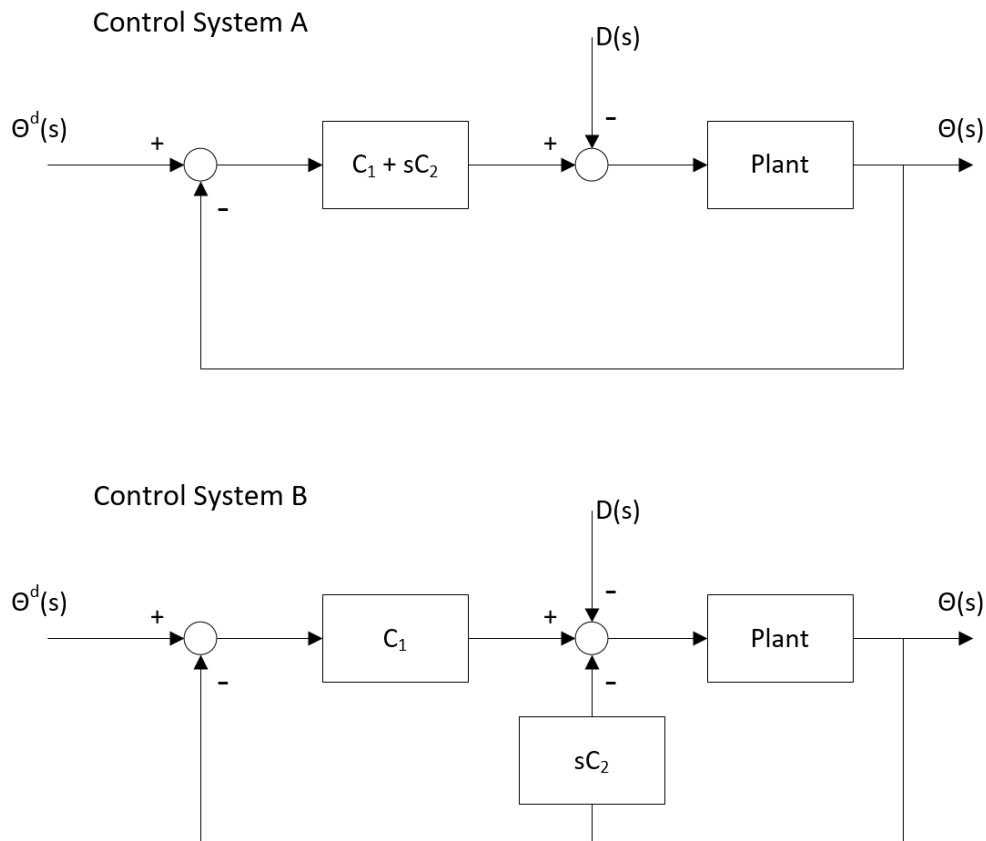

Figure 1: Control Systems
- a) (5 %) Figure 1 shows two set-point tracking control systems, which in practise do the same. Find the transfer function for the controller  $U_a(s)$  in control system A, and  $U_b(s)$  in control system B, and use these to show that it is valid to draw the controllers in both ways. Use your knowledge of the different parts of a PID controller to draw a logical conclusion based on your algebraic result.